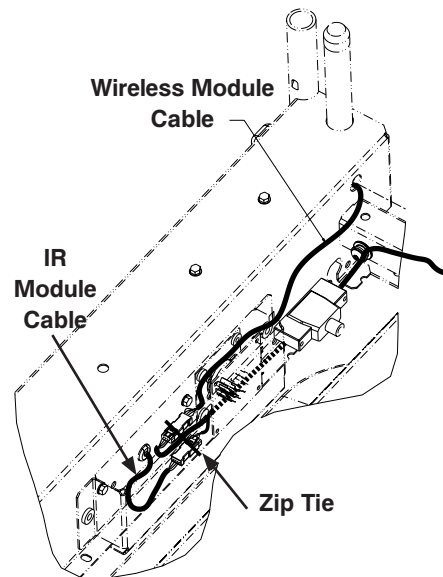

Figure 2
5. Using diagonal pliers, cut the zip tie securing the cables to the litter frame shown in Figure 2.
8. Route the wireless module cable from its connection point out through the hole in the litter frame to remove the assembly shown in Figure 2.